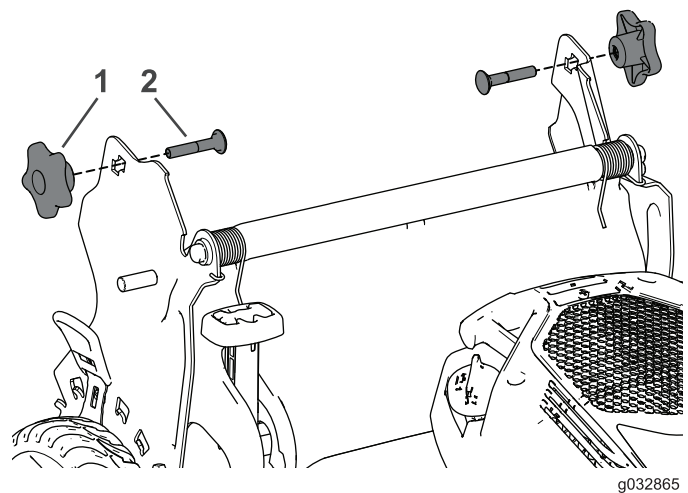

Figure 29
4. Insert the carriage bolt (with the bolt head toward the inside) through the handle bracket and the upper hole in the handle end. Ensure that the square edges of each carriage bolt fits into the upper or lower square hole in its related handle bracket (Figure 29).